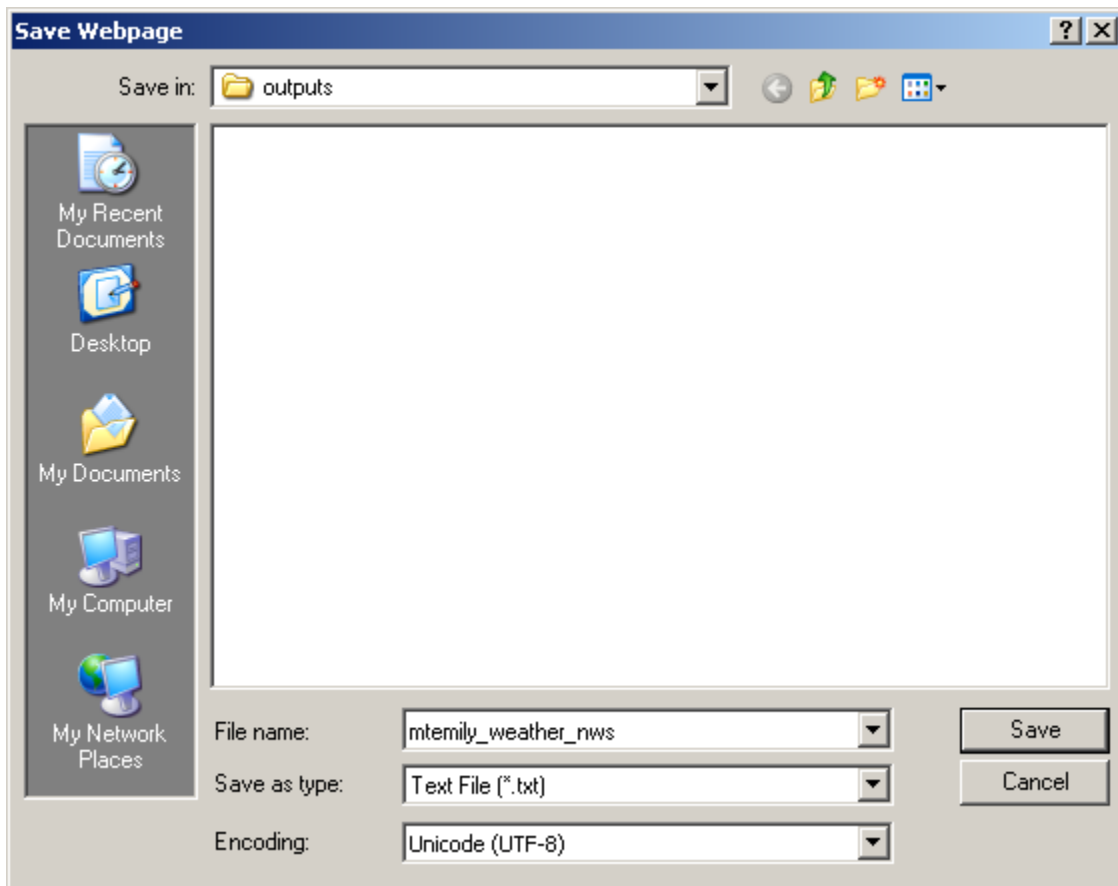

Figure 3-40—Saving the data as a text file.
- a) To use this data in FlamMap it needs to be saved as a *.txt file (**Internet Explorer main menu**→**File**→**Save As**) then be converted to a *.wtr file. Navigate to and save the file as “mtemily_weather_nws” as a text file (*.txt) in the outputs folder of the ArcFuels directory (fig. 3-40).